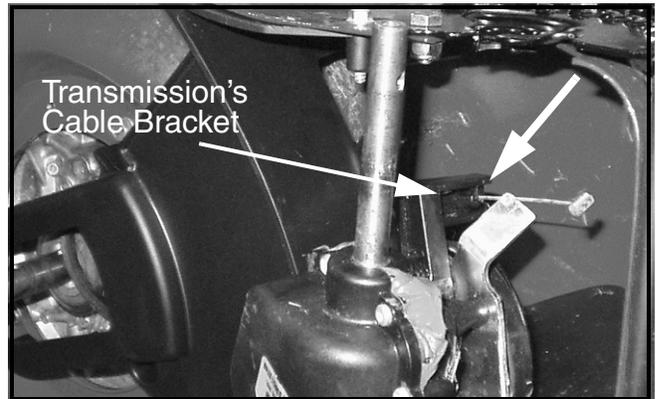

FIGURE 14
26. At the rear of the unit, carefully pull the transmission out from the deck and position it so that there is access to the drive cable clip-in fitting on the transmission's cable bracket. See Figure 14.
30. Route the loose looped end of the belt up through the main baffle's passageway to the crankshaft. Allow sufficient access to the transmission's cable bracket and install the drive cable housing end fitting into the transmission's cable bracket. Reference Figures 14 and 15.